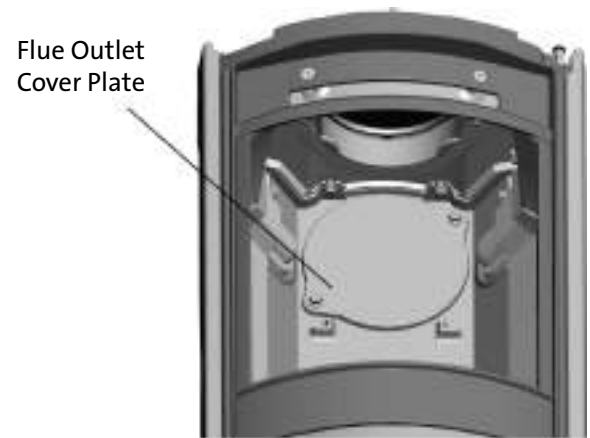

Figure 16. Outlet Cover Plate and Flue Collar.
1. From inside the firebox, remove the rear Outlet Cover Plate with removal of the two M8 x 20 mm bolts. Fig. 16.
2. Remove the Flue Collar from the top plate and re-install it in the rear outlet position inside the firebox. Fig. 16.